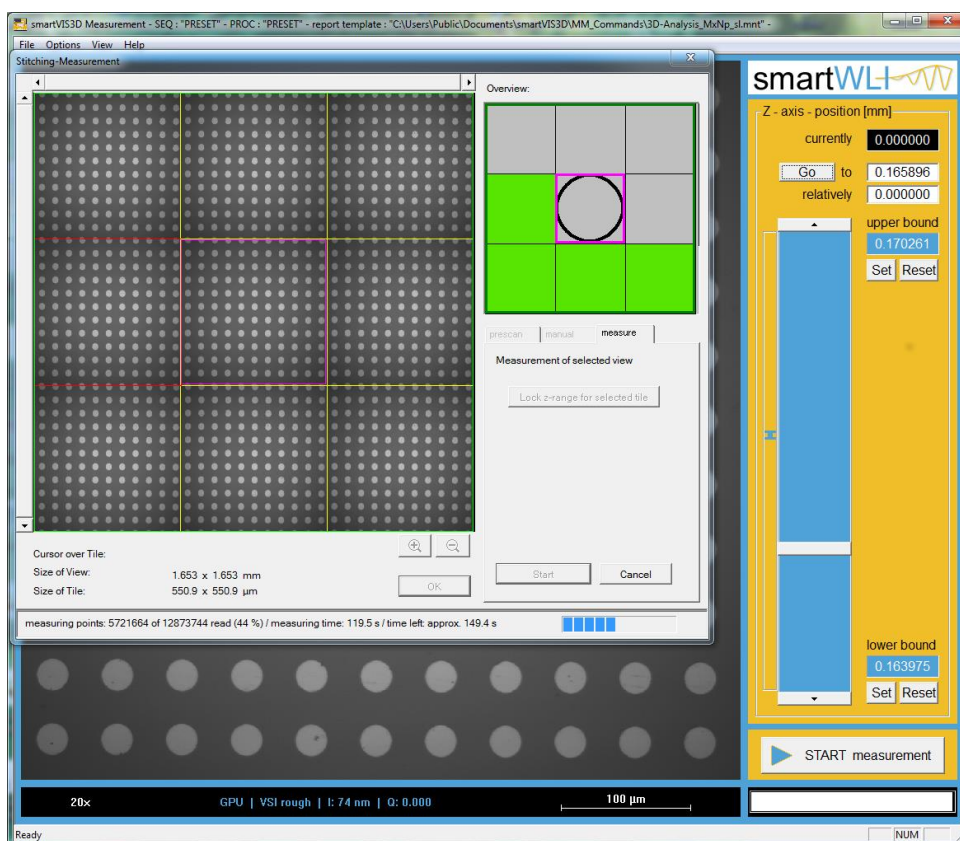

FIGURE 16: DISPLAY OF THE STATUS PROGRESS DURING THE STITCHING-MEASUREMENT PROCEDURE
When the stitching measurement process is running, to show the progress of the stitching procedure in the camera grid field (1) the currently scanned grid tile is highlighted using a red border. Because in the initial state the center tile is assigned the red border, to avoid confusion during the measurement it will be assigned a purple border. Each processed tile will be additionally marked with a green background color in the progress status grid (2). In Figure 16 an example of the updated grid tiles is shown.